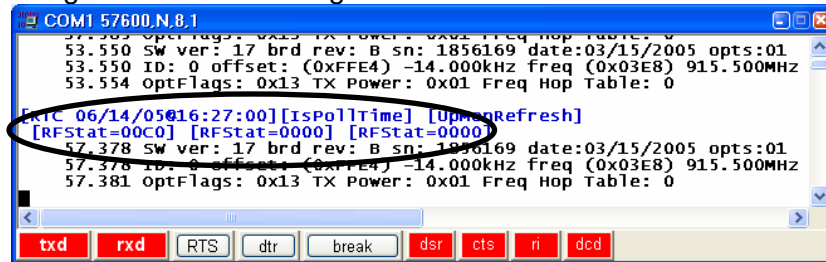

Fig. 8.7: RF Stat=0000
- 8.5.9 Verify **RF Stat=0000** on RF Default screen in DataHub Lite menu tree, Fig. 8.6 or in the Floating terminal screen, Fig. 8.7